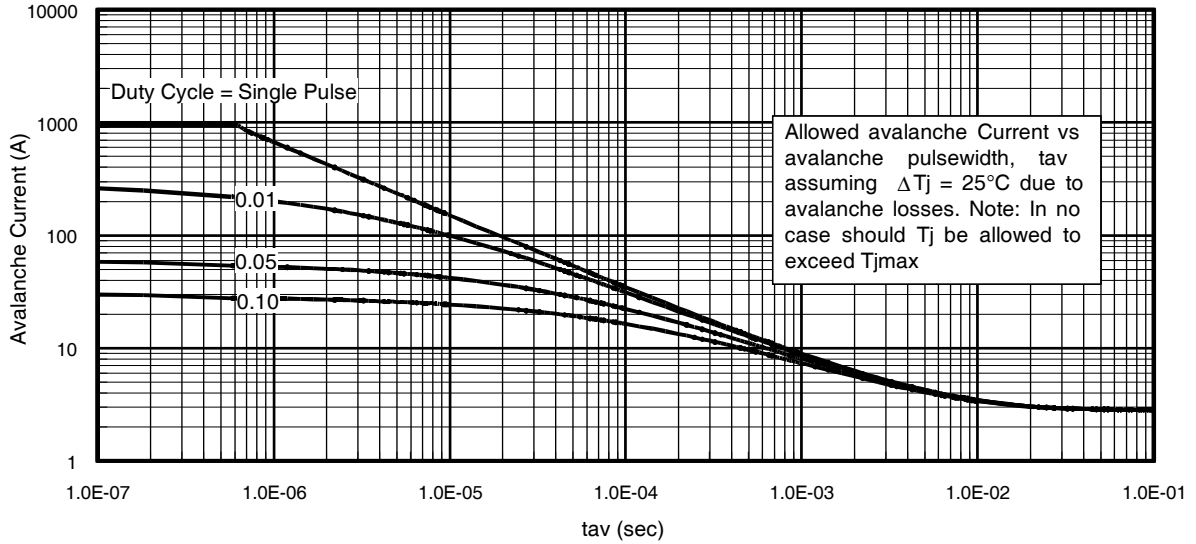

Fig 15. Typical Avalanche Current Vs.Pulsewidth
Notes on Repetitive Avalanche Curves , Figures 15, 16:
7. ΔT = Allowable rise in junction temperature, not to exceed T_{jmax} (assumed as $25^\circ C$ in Figure 15, 16).